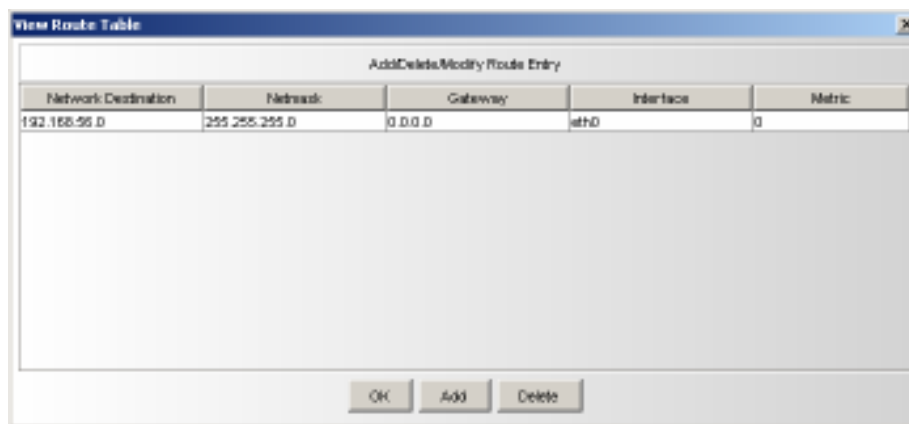

Figure 5-36. View Route Table
1. On the **View** menu, click **View Manual Route**. The View Route Table appears, with the current route tables shown (see Figure 5-36).